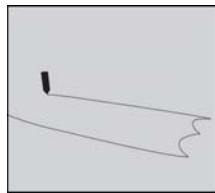

Figure 2:
2. Mark the area to receive the PreMark® using a chalk line, chalk or crayon. *See Figure 2.* When tracing always handle the material with care. The PreMark® may consist of a pattern of interconnected individual pieces of preformed thermoplastic material. If that is the case, do not lift an entire pattern segment (usually 2 ft. x 3 ft.) by holding on to a small individual piece of the pattern only. The material should be handled on the plastic sheet it is packed with until it is close to its final position. *See Figure 3.* Once the marking has been traced, or the area chalked, remove the marking from the pavement.